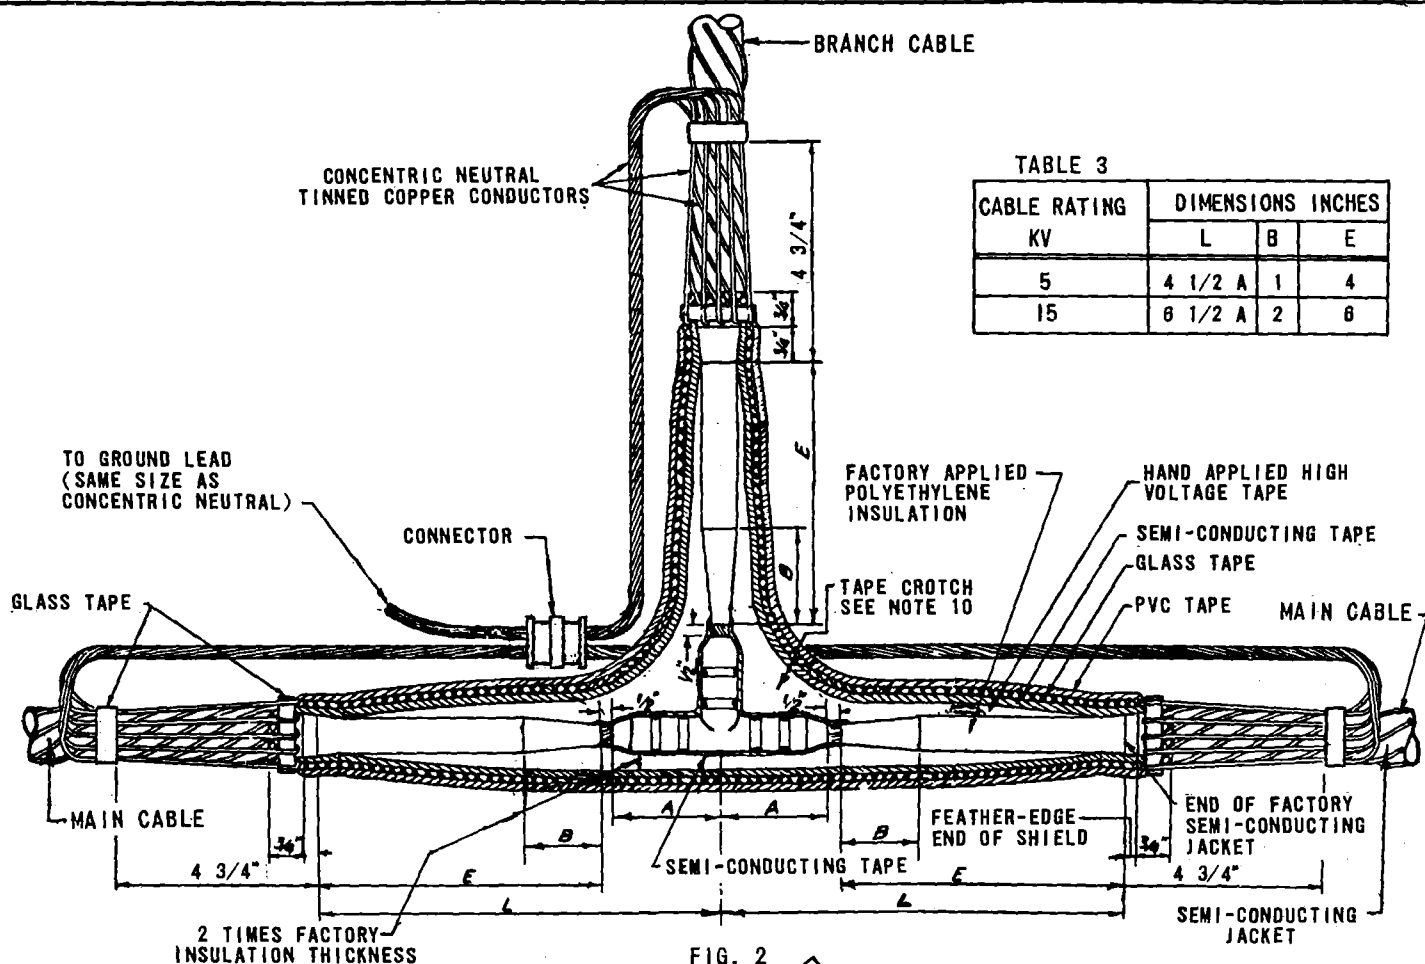

FIG. 2
2. MARK THE MAIN CABLES 'L' 4 3/4 INCHES AND FOR THE BRANCH CABLE AT A DISTANCE 'L' 4 3/4 INCHES FROM THE PREVIOUS. UNWIND THE CONCENTRIC CONDUCTORS OF EACH CABLE. FOLD AND LAY THESE CONDUCTORS BACK OUT OF THE WAY. CUT EACH CABLE AT ITS MARK. (THE CONCENTRIC CONDUCTORS SHOULD BE LONGER THAN THE INSULATED CONDUCTOR TO ALLOW FOR FOLDING BACK OF CONCENTRIC CONDUCTORS AS SHOWN IN FIG.2. IF THIS IS NOT POSSIBLE, THE TWISTED NEUTRAL CONDUCTOR MAY BE 'SPLICED OUT')